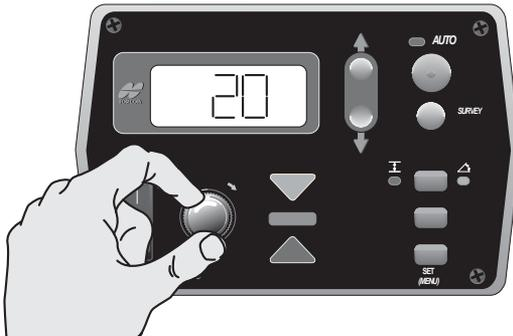

Figure 4-28. Selecting the Gain Value
2. Turn the Grade Adjustment Knob to select the desired value, typically 20% to 25% (Figure 4-28).